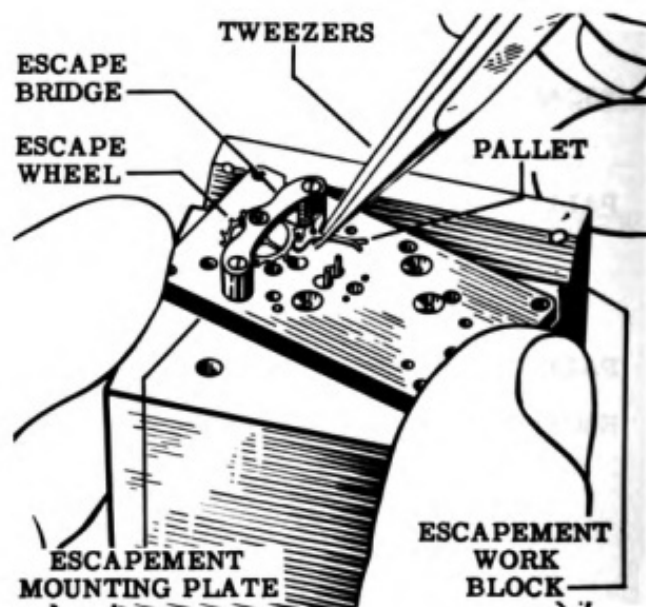

Figure 44
6. Unscrew the two pallet bridge screws. Using tweezers, grasp the bridge near its center and apply a slight force straight up. With a small screwdriver, pry the bridge loose from the escapement plate and lift the bridge straight up off the escapement plate. Lift out the pallet as shown in Fig. 44.